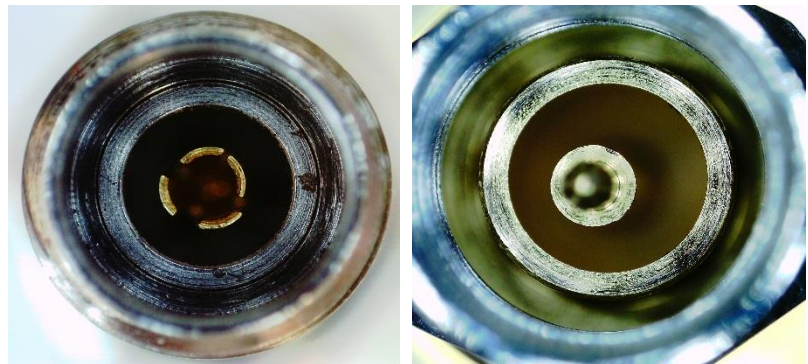

Fig. 4-2: Examples of damaged connectors: Bent fingers on female slotted connector (*left*); non-concentric male pin (*right*)
- Fig. 4-2 shows good examples of damaged centre conductors.